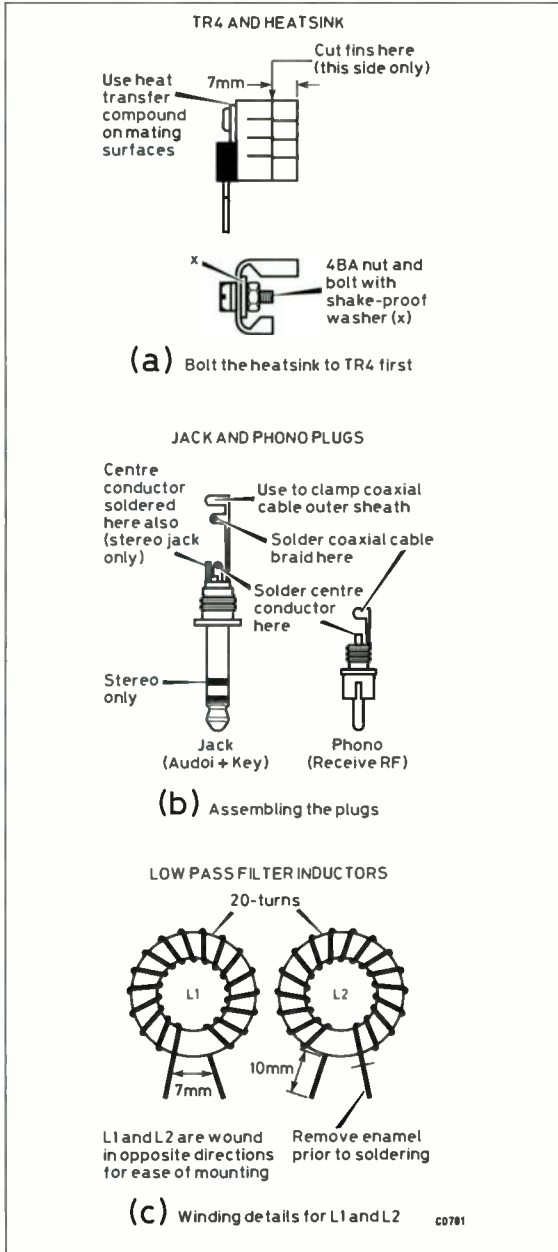

Fig 5.5. Constructional detail
10. The final component to be mounted is TR4. However, it is necessary to bolt the heatsink to TR4 first. Fig 5.5(a) illustrates how this is done. Note that the fins on one side of the heatsink (which is made of
- Before the transmitter can be tested it will be necessary to make up a power lead using the plug provided with the kit, ensuring, of course, that the positive lead is the one connected to the centre pin of the plug! Two coaxial patch leads are also required – one for receive RF, which has a phono plug at each end, and one for receiver audio which has a mono jack plug at one end and a stereo jack plug at the other. To make these, cut the remaining miniature coaxial cable in half and solder the plugs using Fig 5.5(b) as a guide. If you do not plan to use the RC14 + 3.5MHz converter you may, of course, need to use different plugs at the receiver end.